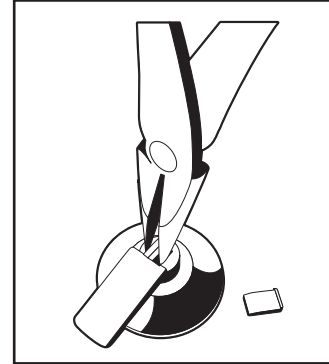

Figure 6
6. Slide the lock cylinder through the front of the door. See Figure 6